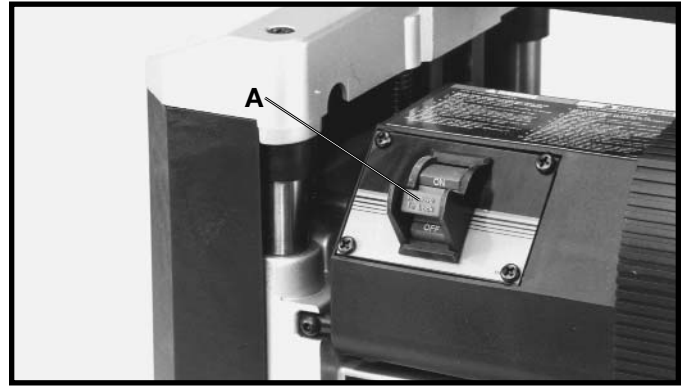

Fig. 14
The on/off switch (A) Fig. 14, is located on the front of the planer motor. To turn the machine **“ON”** move the switch up to the **“ON”** position. To turn the machine **“OFF”** move the switch down to the **“OFF”** position.